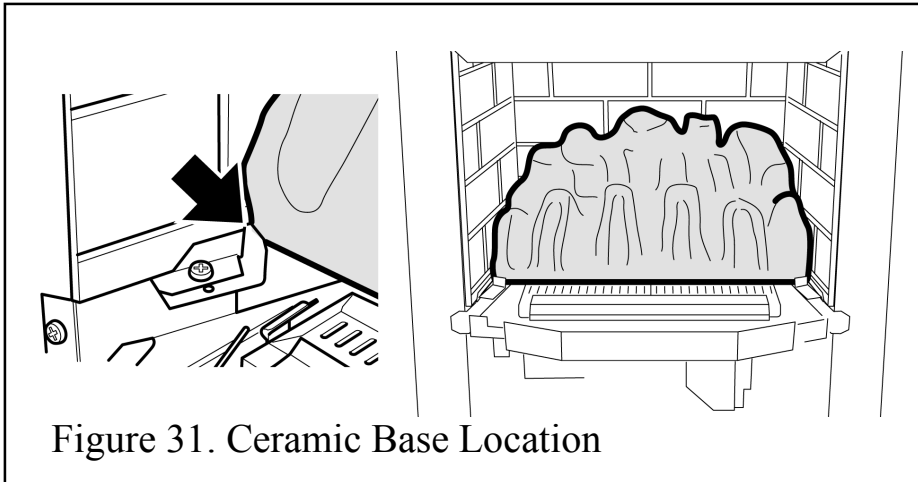

Figure 31. Ceramic Base Location
1. Place the ceramic base coal in the burner compartment. The bottom rear face of the coal should rest on the angled ledges at the back of the burner compartment. The bottom front edges of the coal base should locate against the left and right hand side brackets. (See figure 31).